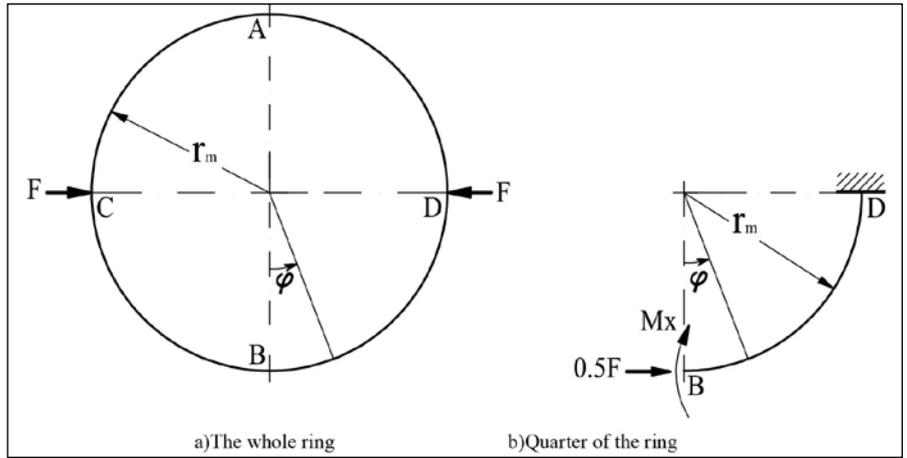

Figure 3 Force analysis on mid-layer of flex-spline.
It is known (Eq. 2) that the biggest bending moment occurs on sections D of  $\varphi = 90$  in the ring-flexspline (Fig. 3); its value  $M_{max} = -Fr_m/\pi$  (minus sign means that this bending moment decreases the curvature of the elliptic mid-layer). The stress at the outermost end (away from the center of the middle circle) on section D is the maximum compressive stress in cross-sections of the ring-flexspline, its value  $\sigma_{max} = 0.5 M_{max} \delta/I = -0.5Fr_m\delta/(\pi I)$ . The maximum compressive stress could be calculated from Equations 3 and 5:
**Cycle characteristic of alternating stress on section in ring-flexspline.** As mentioned above, the stress at outermost end on section D (Fig. 3) in the ring-flexspline is biggest (maximum compressive stresses), and smallest on section B (that is, minimum tensile stresses). Therefore, the stress on the ring's section is an alternating stress in an asymmetric cycle, which is a reason leading to fatigue failure for the flexspline.
The authors analyzed the radial deformation of the mid-layer and section stress of the flexspline under the action of EWG based on the research model of a smooth cylindrical shell. It showed that the stress in the flexspline at work is an alternating one of asymmetric cycle; the stresses of cross-sections in the flexspline’s rim are larger at major axis and short axis of elliptical mid-layer; those between the major axis and short axis are smaller; and the stress in the short axis is bigger than that in the major axis. The most dangerous section, vulnerable to damage, is the contact zones (sections C and D, Fig. 3) of the wave generator and the flexspline.